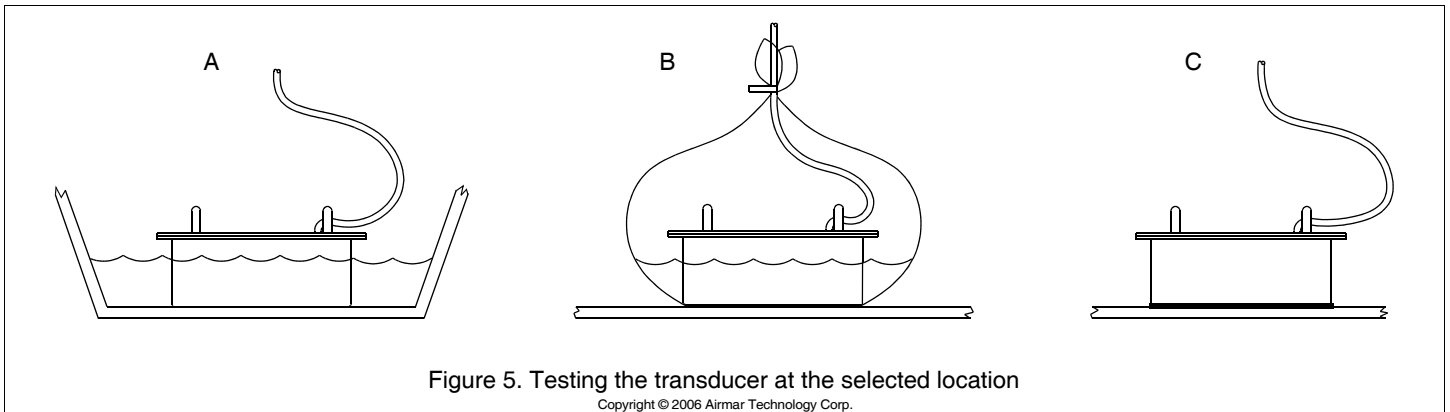

Figure 5. Testing the transducer at the selected location
- A. This method is recommended if the transducer will be located near the stern and the boat has a minimum deadrise angle. Clean away any build-up of dirt and/or grease using detergent or a weak solvent such as alcohol. Place the transducer against the hull and flood the area with bilge water to cover the surface where they touch (see Figure 5-A).
This method can be used at any location. If the hull surface is not smooth, grind it with a disc sander. Place the transducer inside a thin plastic bag. Partially fill the bag with water and close it tightly with a twist-tie. Wet the surface of the hull and press the active face of the transducer against it through the bag (see Figure 5-B).
This method can be used at any location. If the hull surface is not smooth, grind it with a disc sander. Coat the active face of the transducer with a water-based lubricant (such as K-Y® jelly). With a twisting motion, press the face firmly against the hull (see Figure 5-C). After testing, wipe away all traces of the lubricant from the transducer's face.